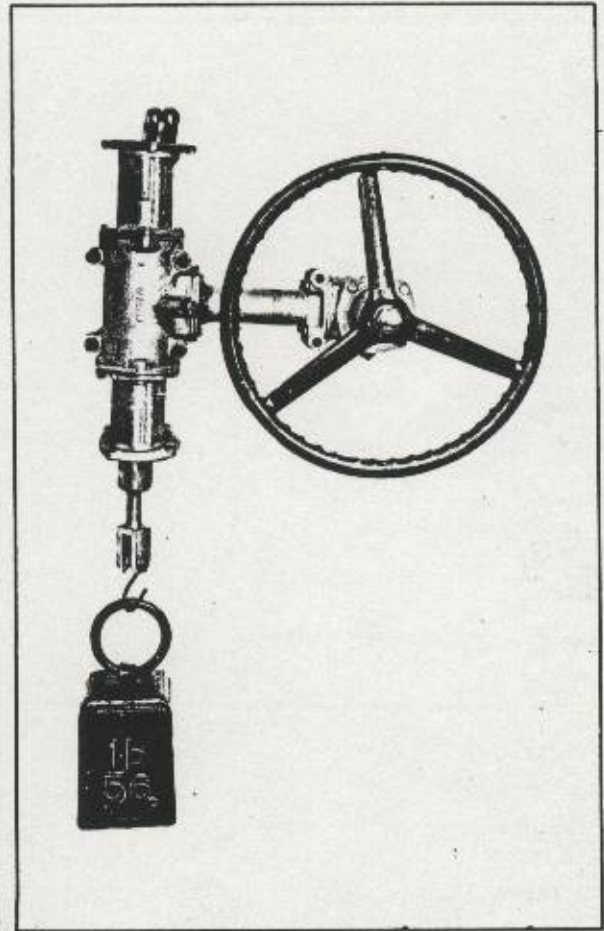

FIG. 32 - STEERING GEAR -
60. Bolt the steering assembly to the angle-plate (as shown in Fig. 32) but with the steering column in the horizontal position and the housing, recirculating ball, vertical. Hang a 56 lb. weight on the lower link fork end. Draw the weight up by turning the steering wheel, release the wheel and the weight should go to the bottom (in 12-15 seconds) turning the steering wheel through the recirculating ball mechanism. Should the weight fail to turn the steering gear unaided, check the gear for tightness, paying particular attention to the meshing of the gear wheels.